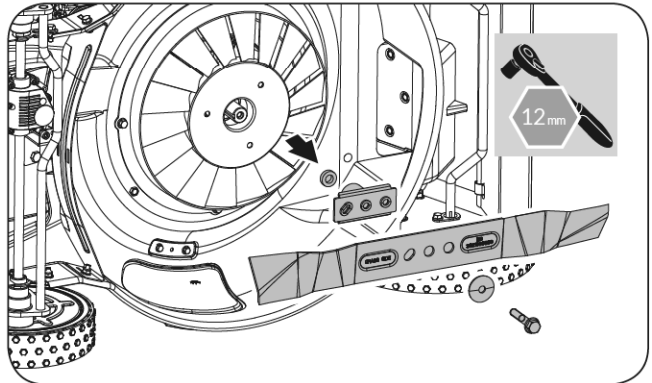

Figure 26
1. Remove the bolt fix the blade and remove the blade (See **Figure 26**)